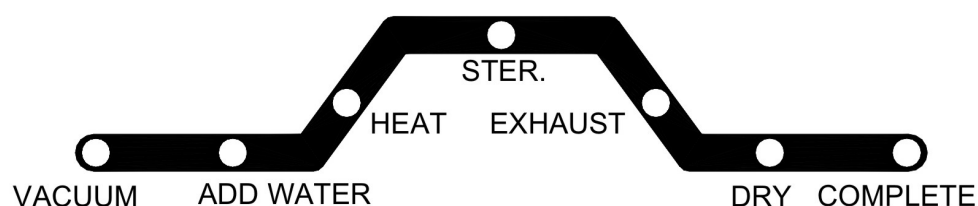

Figure 44
D. Press the START button , the setting temperature, duration, and dry time displayed two times on the three-digit display, and then the sterilizer will automatically run through the selected program. The current progress of the sterilization cycle is indicated by the illuminated LED on the Process Status Indicator. (Figure 44)